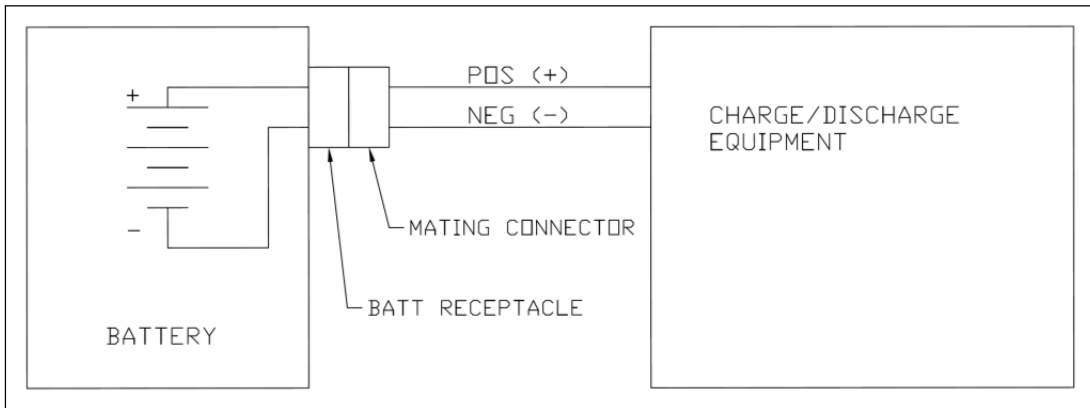

Figure 101. Test Set Up for RG® Series Main Batteries with Receptacles
- A. Refer to Figure 101 or 102 for a schematic of the test set up.